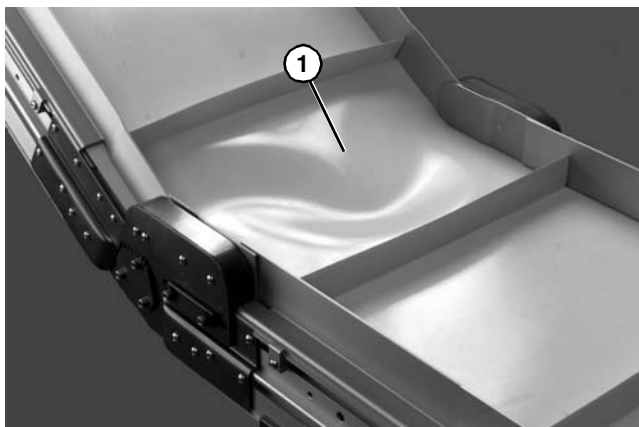

Figure 39
*Bowing of the belt (**Figure 39, item 1**) may occur if excessive tension is applied to the belt. Do not over tension the belt.*